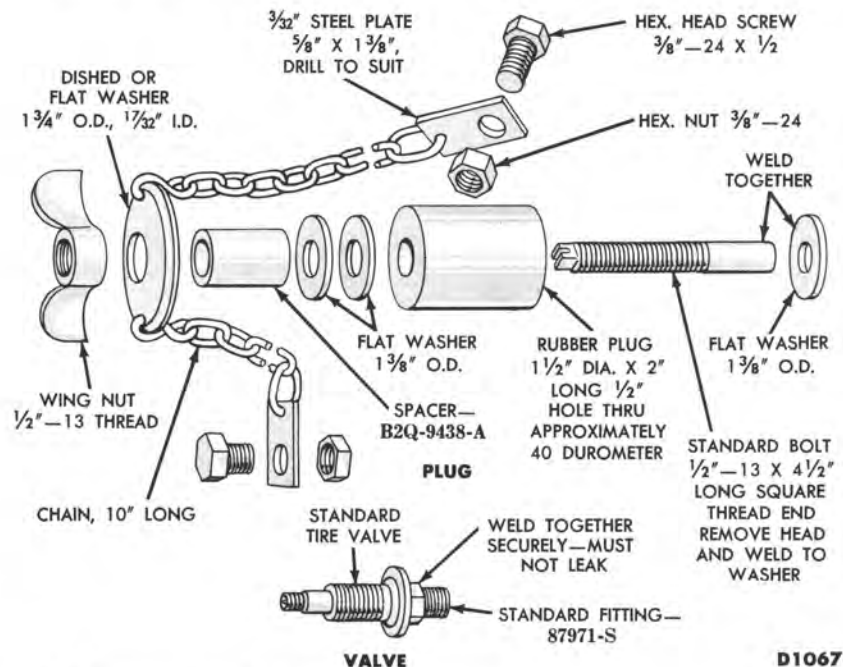

FIG. 6—Converter Leak Checking Tool
7. Using the end play reading which was taken during disassembly, select the proper selective thrust washer to be installed on the stator support shaft (Fig. 6). Selective thrust washers are available in thicknesses of 0.067-0.069, 0.074-0.076, 0.083-0.085, and 0.092-0.094 inch.
1. Tighten the low band adjusting screw with the special torque wrench (Fig. 6, Part 6-2) until the wrench is felt and heard to click. This tool is a pre-set torque wrench which clicks and overruns when torque on the screw reaches 10 ft-lbs.
Fig. 6 shows how a leak checking tool can be made from standard parts.